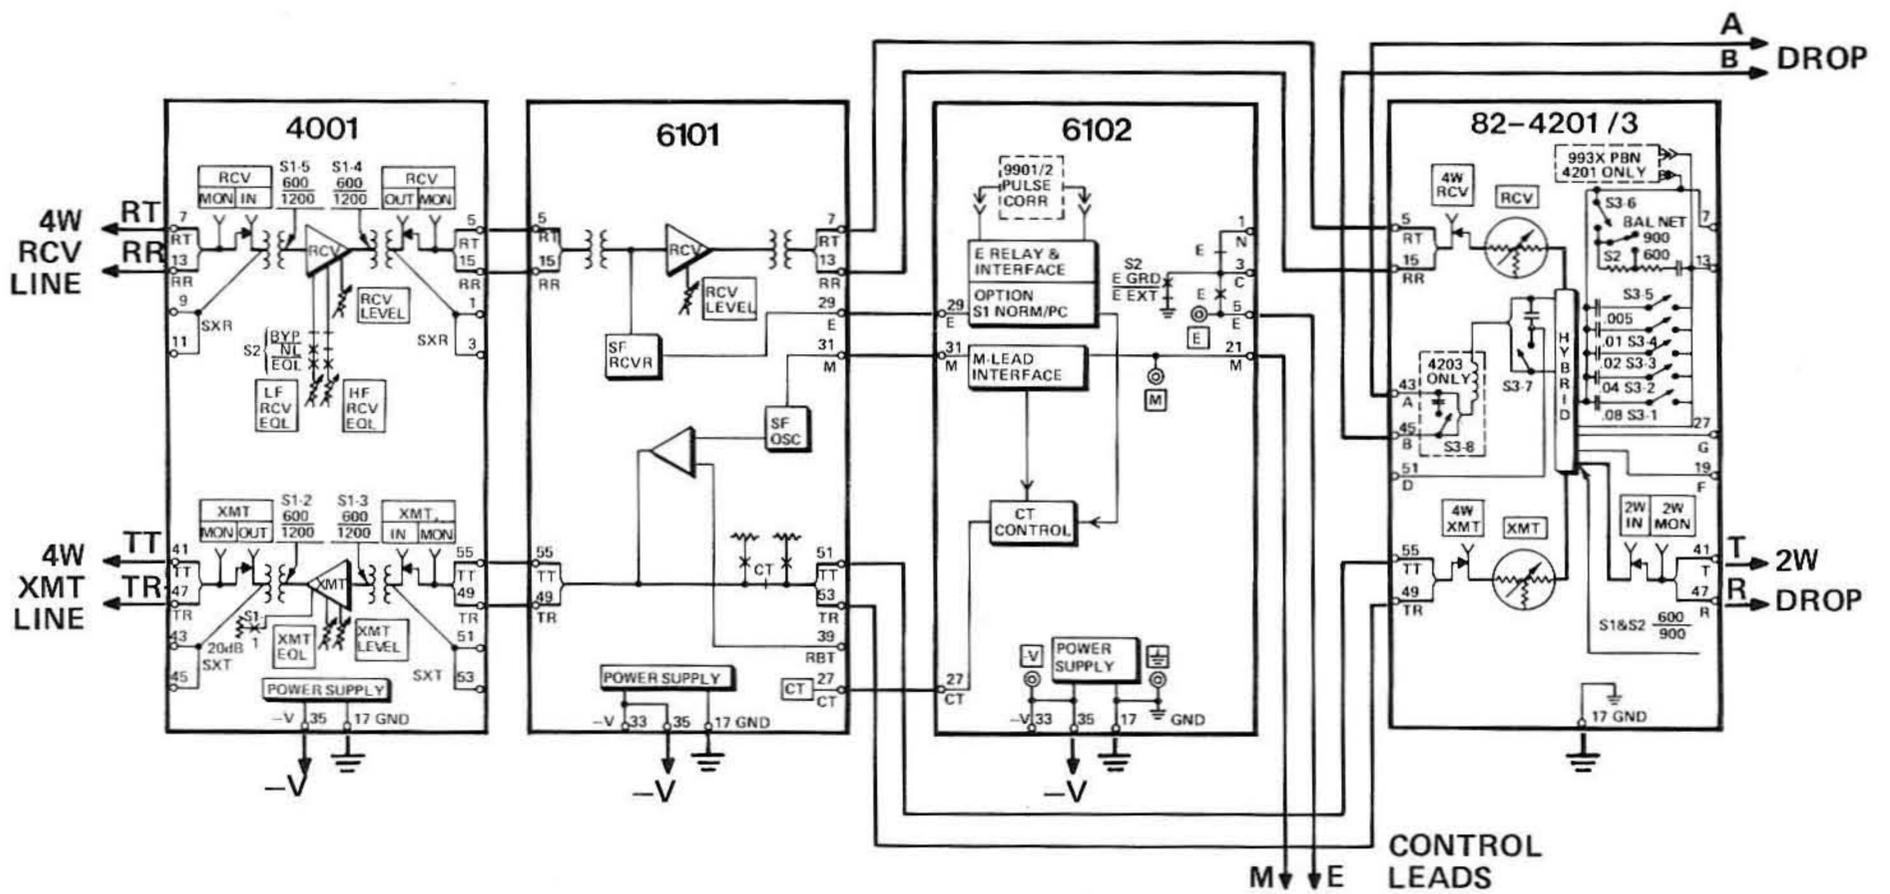

Figure 2. Wiring diagram showing leads required when 6101 is used with 6102 Signaling Converter (E and M) in a 261 System.
2.09 For a more thorough explanation of the most typical forms of application of the 6101 module, see the "application" section of the 261 Signaling and Terminating System Practice. Wiring and circuit configurations for common applications are presented in figures 2, 3, 4, and 5 in Section 3 of this Practice.
3.05 Because the 6101 is always used in conjunction with a Signaling Converter module, and these two modules are often used within the context of a Tellabs Type 261 Signaling and Terminating System, block Wiring Diagrams (figures 2 through 5), showing necessary connections for the four most common applications of the 6101, follow.